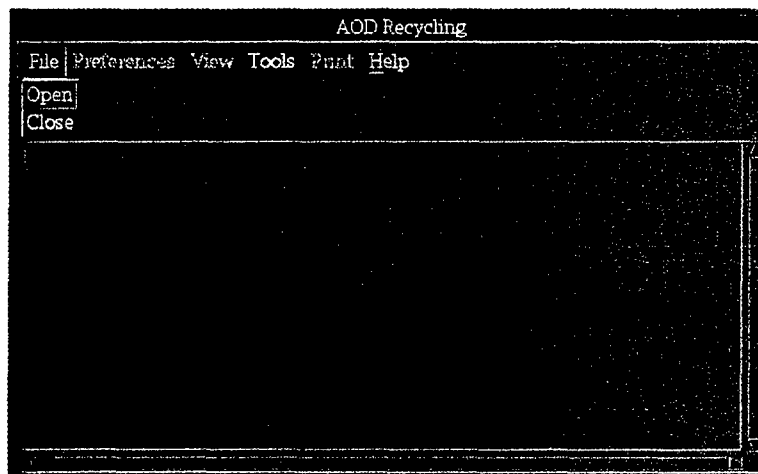

Fig. 35 — AOD recycle menu with file options
3.3.6.1.5 AOD Recycle — This option allows remaining space on a previously used AOD to be utilized for new AOD images. Note: any pre-existing images on the AOD are lost during the recycle operation. MMC invokes the **AOD Recycling Window** (Fig. 35).